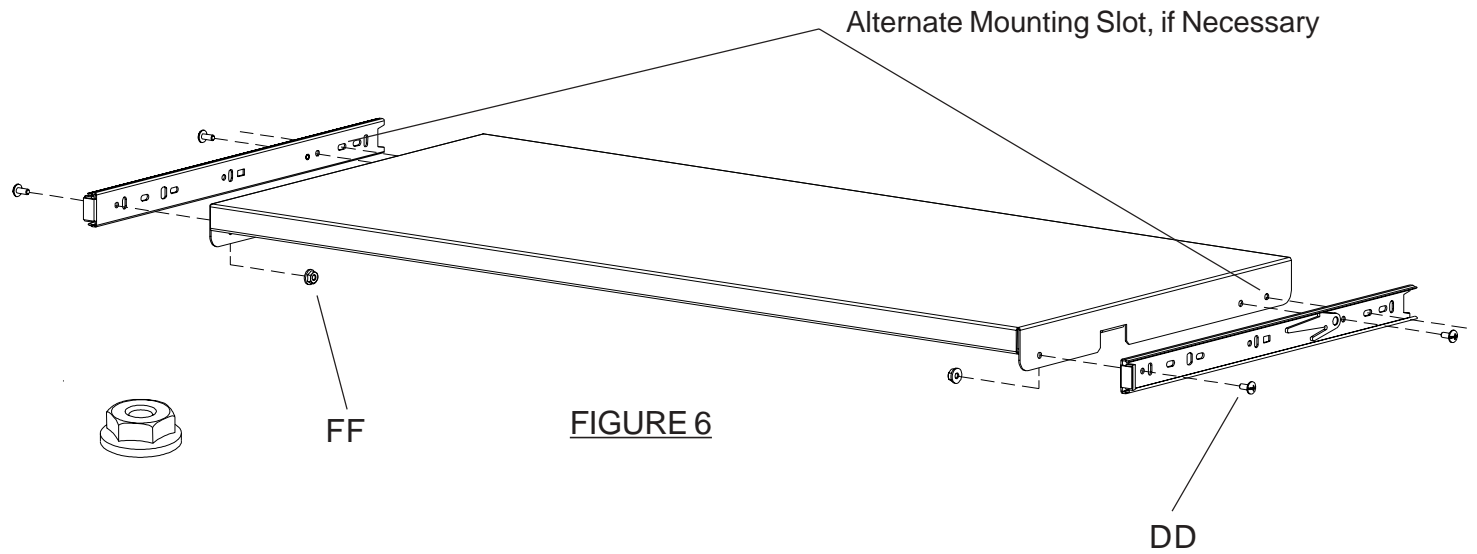
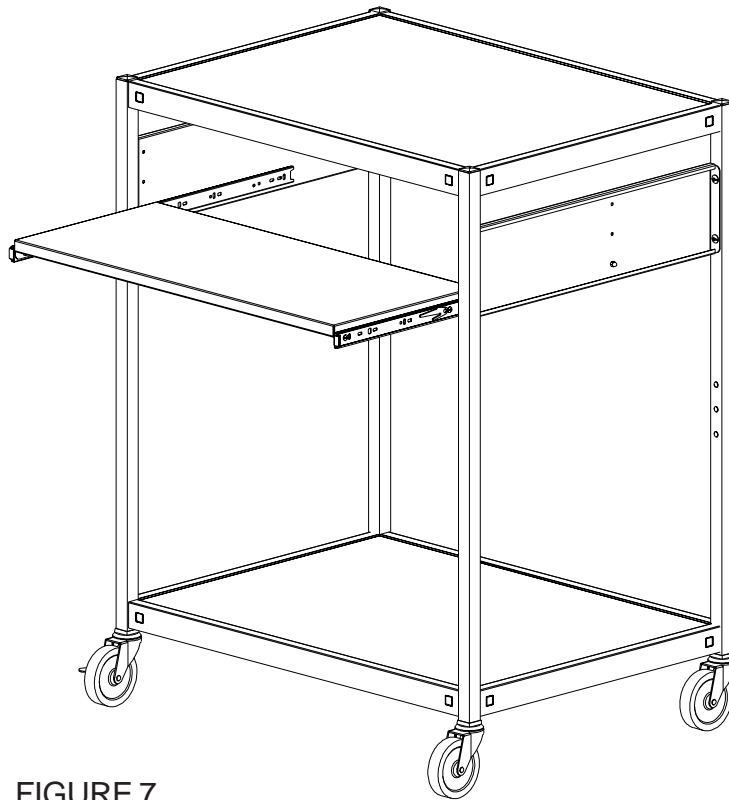

FIGURE 6
FIGURE 7
Attach the remaining slide pieces to the pull out shelf with screws (DD) and nuts (FF) as shown in **FIGURE 6**. Then slide shelf into cart as shown in **FIGURE 7**.